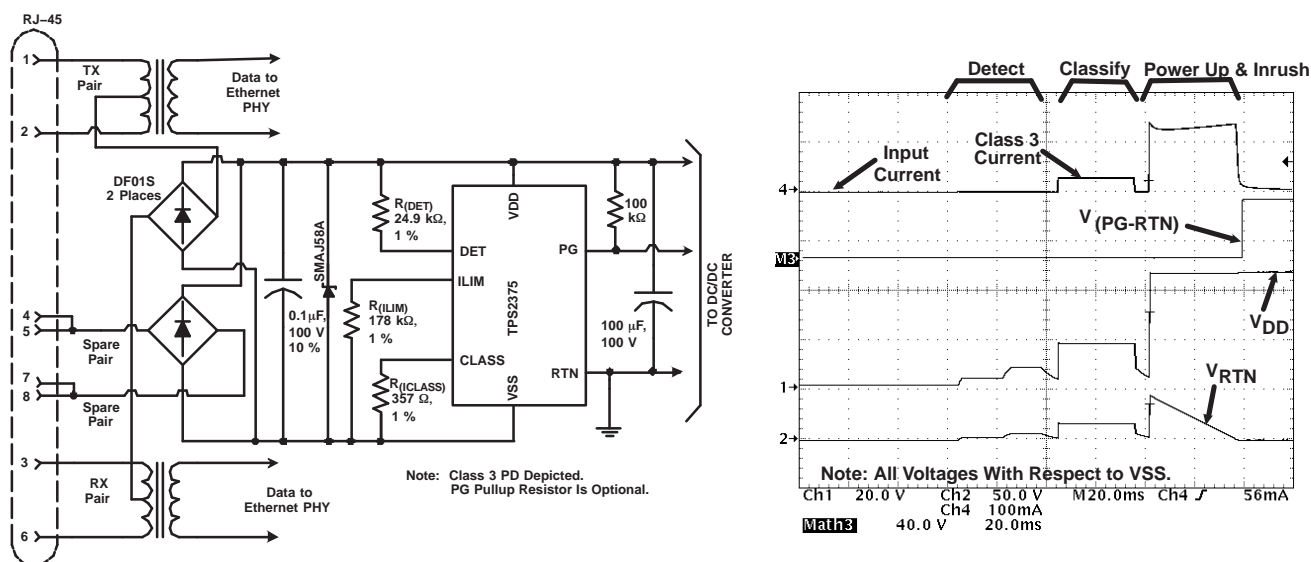

Figure 1. Typical Application Circuit and Startup Waveforms
(1) Stresses beyond those listed under “absolute maximum ratings” may cause permanent damage to the device. These are stress ratings only, and functional operation of the device at these or any other conditions beyond those indicated under “recommended operating conditions” is not implied. Exposure to absolute–maximum–rated conditions for extended periods may affect device reliability.
(3) SOA limited to $V_{(RTN)} = 80$ V and $I_{(RTN)} = 515$ mA.
(4) Surges applied to RJ-45 of Figure 1 between pins of RJ-45, and between pins and output voltage rails per EN61000-4-2, 1999.